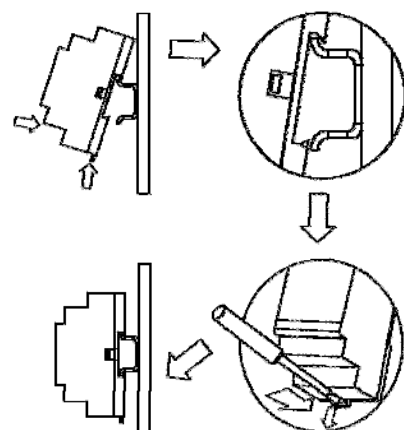

Fig. 1
- 2) Place the element according to figure 1.
- 2) Placez l'élément selon la figure 1.